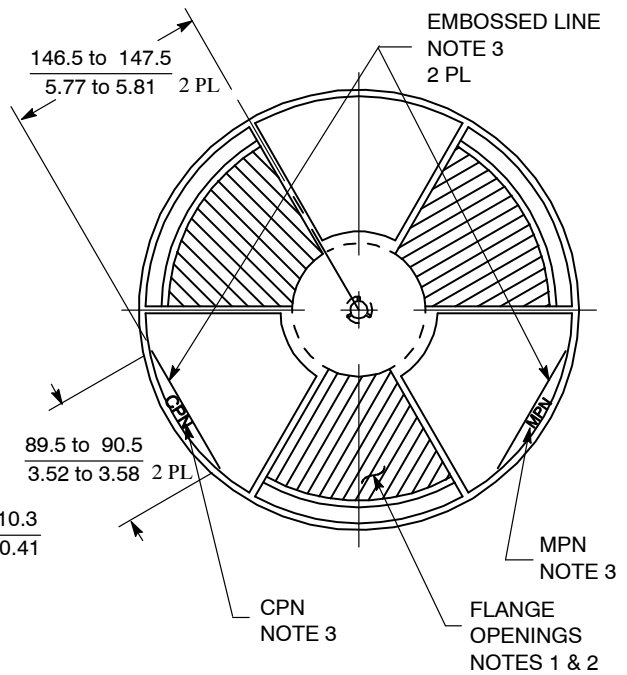

Figure 49. Front View of 330 mm (12.99 in) Reel
- If there are any flange opening on the front flange of the 330 mm (13.0 in) reel they must be designed in locations so that two of the 41.3 mm (1.65 in) by 125 mm (4.90 in) ON Semiconductor barcode labels can be applied parallel to each other as in Figure 49.